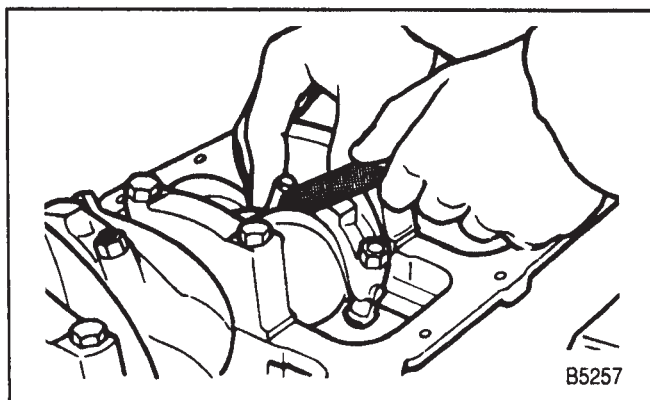

Figure 26—Measuring Connecting Rod Side Clearance
- Connecting rod side clearance. Use a feeler gage between the connecting rod and crankshaft (figure 26). The correct clearance is 0.002-0.006 inch.